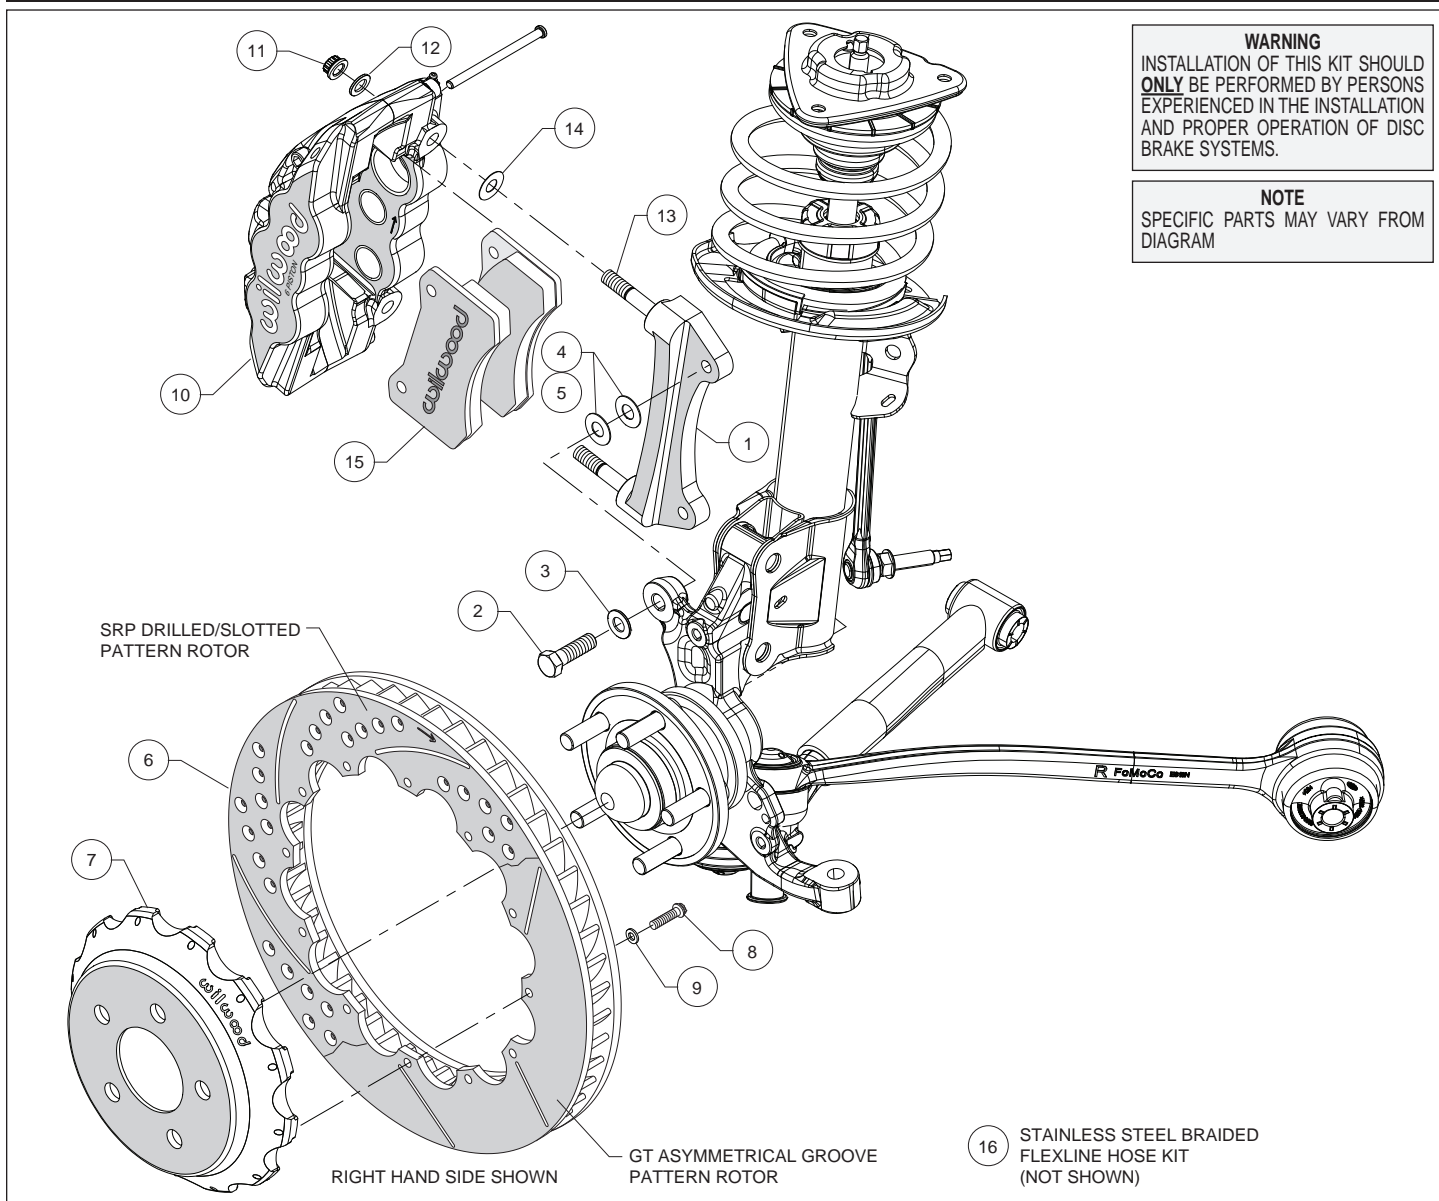
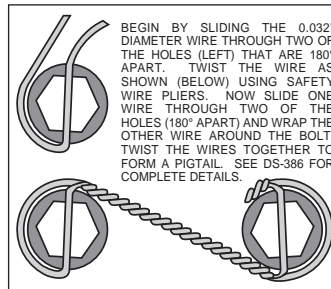

Figure 1. Typical Installation Configuration
Figure 3. Safety Wire Diagram
**Assembly Instructions** (numbers in parenthesis refer to the parts list and Figure 1 on the preceding pages):
- The caliper mount bracket (1) should initially be installed with clean, dry threads on the mounting bolts. Orient the bracket, as shown in Figure 1 and Photo 1, and install using bolts (2) and washers (3). Initially place two .033" thick shims (4) on each bolt between the bracket and upright, Figure 1. Temporarily tighten the mounting bolts. **NOTE: The bracket must fit squarely against the mount bosses on the upright.** Inspect for interference from casting irregularities, machining ridges, burrs, etc. Later, after the caliper alignment has been checked, the mount bolts will be secured using red *Loctite*® 271.
- Orient the rotor (6) and the hat (7) as shown in Figure 1 and Photo 2. Attach rotor to hat using bolts (8) and washers (9). Using an alternating sequence, apply red *Loctite*® 271 to the threads, and torque to 155 **in-lbs**. For an added measure of security, the bolts may be safety wired using standard 0.032 inch diameter stainless steel safety wire as shown in Figure 3. Refer to Wilwood's data sheet DS-386 (available at [www.wilwood.com/Pdf/DataSheets/ds386.pdf](http://www.wilwood.com/Pdf/DataSheets/ds386.pdf)) for complete safety wire installation instructions.
- NOTE: This kit contains distinct right and left hand calipers that must be mounted in a specific direction, as described below.** Lubricate the caliper mounting studs (13) with lightweight oil. Initially place one .030" thick shim (14) on each stud between the caliper and the bracket, as shown in Figure 1 and Photo 4. Mount the caliper (10) onto the bracket (1) using lock nuts (11) and washers (12), Figure 1. Temporarily tighten the lock nuts. Ensure that the caliper is mounted so the largest pistons are at the rotor exit end of the caliper, in relation to the direction of the rotor. View the rotor through the top opening of the caliper. The rotor should be centered in the caliper, Photo 5. If not, adjust by adding or subtracting shims (4 and/or 5) between the bracket and the upright. Always use the same amount of shims on each of the two mounting bolts. Once the caliper alignment is correct, remove the bracket mounting bolts one at a time, apply red *Loctite*® 271 to the threads, and torque to 60 ft-lbs.
- Remove the two pad retaining pins from the caliper (10) by carefully popping out the pin retaining clips and sliding out the pins. Insert the brake pads (15) into the caliper from the bottom, Figure 1 and Photo 6. With the friction material facing the rotor, secure the brake pads in place with the pad retaining pins and clips, Photo 7. Reinstall the caliper onto the caliper mounting bracket and temporarily tighten the lock nuts. Check that the top of the brake pad is flush with the outside diameter of the rotor, Photo 8. If not, adjust by adding or subtracting shims (14) between the caliper and the bracket. After the caliper pad height is set, torque the caliper lock nuts (11) to 47 ft-lb.